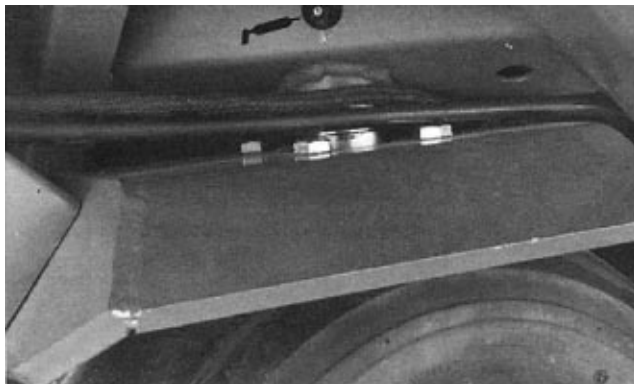
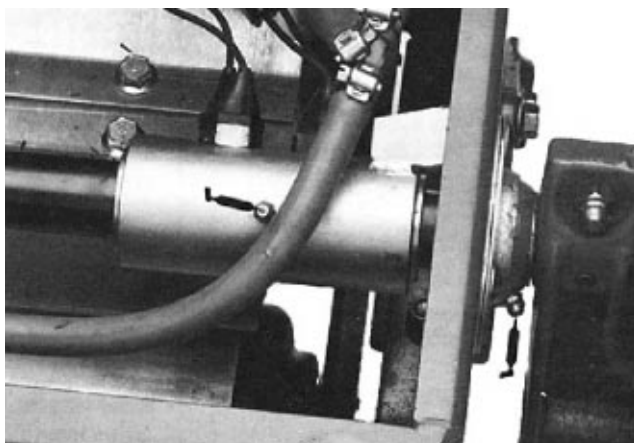
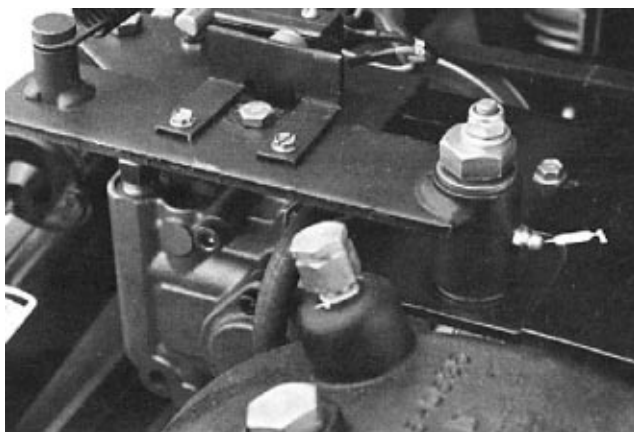

Figure 1
Figure 2
Figure 3
The bearings and bushings that must be lubricated are the steering pivot shaft (Fig. 1), limit switch housing (2) on lift arm shaft (Fig. 2) and neutral pivot shaft (Fig. 3).